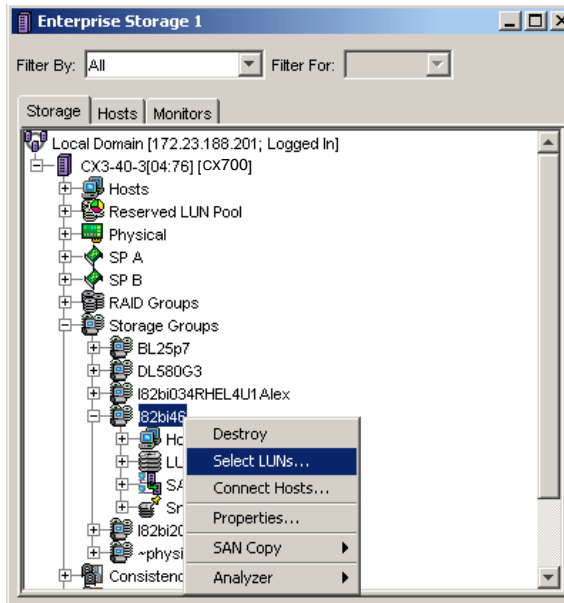

Figure 8-34 Enterprise Storage 1 window
5. Click **OK**. You will see a window similar to Figure 8-34.